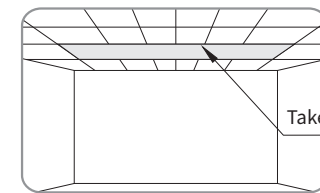

figure 1
- Choose a position according to the required space, and then take apart the ceiling (figure 1). Please measure the distance H between roof and ceiling surface correctly (figure 2)